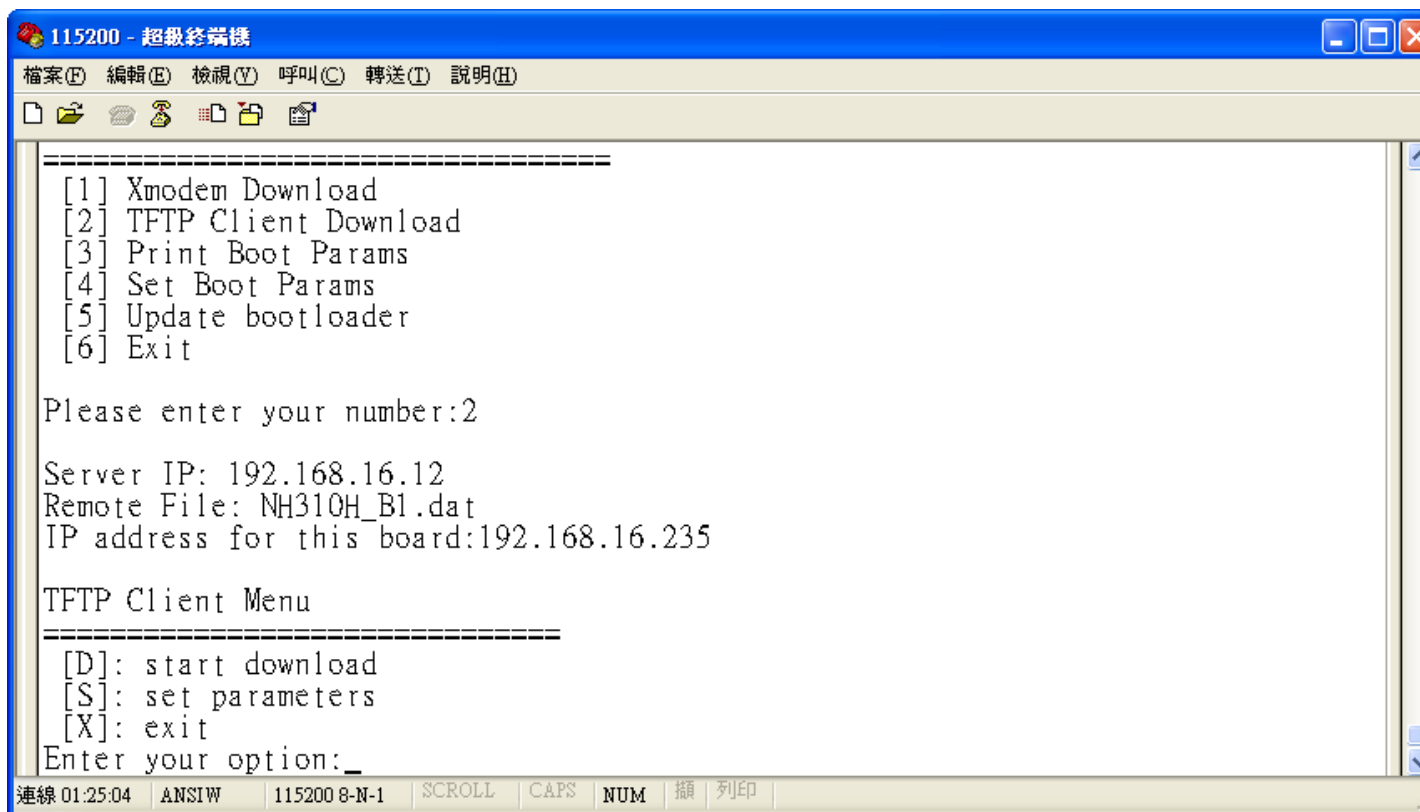

Figure 5.3.3 TFTP Client Download
(3) Please enter the number: "2" as set TFTP Client Download. A screen is displayed as shown in Figure 5.3.3.